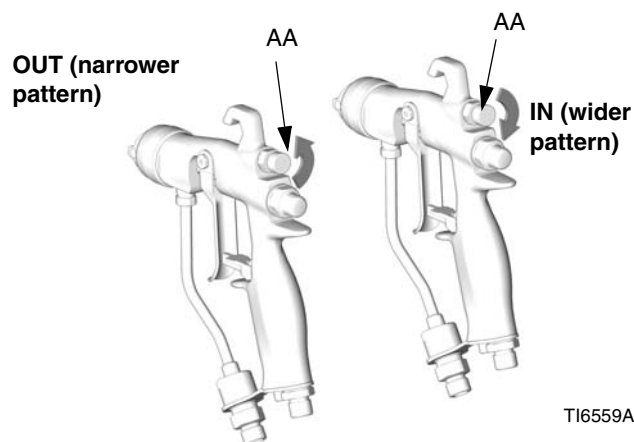

FIG. 6. Pattern Air Knob
- See FIG. 6. Close off pattern adjustment air by turning knob (AA) clockwise (in) all the way. This sets gun for its widest pattern.